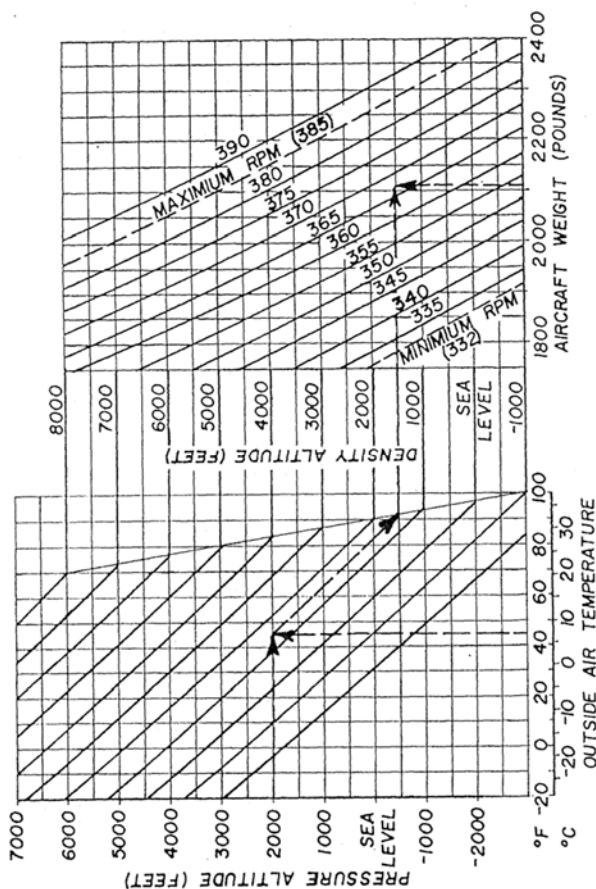
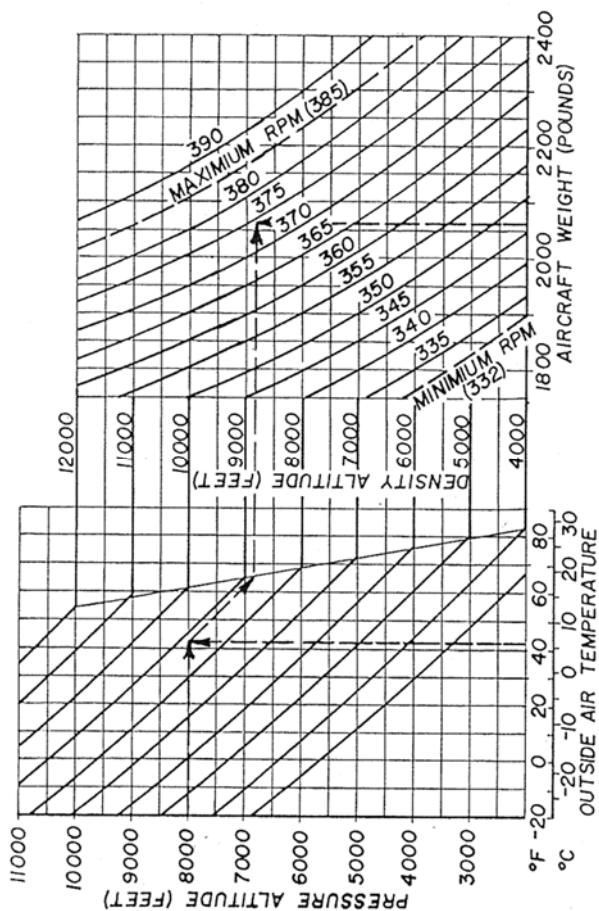

Figure 8-1. Autorotation RPM Schedule for Sea Level Base Altitude
Figure 8-2. Autorotation RPM Schedule for 6000 Ft Base Altitude
The autorotation RPM should be adjusted to comply with the schedules shown in Figures 8-1 and 8-2. Figure 8-1 should be used if the helicopter is based at a location below 6000 ft. Figure 8-2 should be used if the helicopter is based at a location above 6000 ft. To check the autorotation RPM, proceed as follows:
- (1) Determine the weight of the helicopter as it will be flown (reference Section 6). It is important to accurately know the gross weight of the helicopter including fuel and occupants during this test.
- (2) Establish the helicopter in a stabilized autorotation at 60 MPH with the collective full down. Do not allow the rotor RPM to exceed 385 RPM or to fall below 332 RPM. This autorotation should be conducted over a suitable landing area in case of engine failure. The autorotation should be entered high enough to allow the pilot to stabilize the autorotation and recover at a safe altitude.
- (3) Once the autorotation is stabilized, record the rotor RPM, the outside air temperature (OAT), and the pressure altitude (with the altimeter set to 29.92 inches Hg). It is important that the autorotation is stabilized before these readings are taken.
- (4) Compare these readings with the information provided in Figure 8-1 or 8-2, as appropriate.
- (5) If the RPM is not correct as indicated by the appropriate schedule, adjust the RPM as described in Section 12 of the maintenance manual.
- (6) If the RPM is adjusted, re-check the RPM as described in steps (1) through (5) of this procedure.